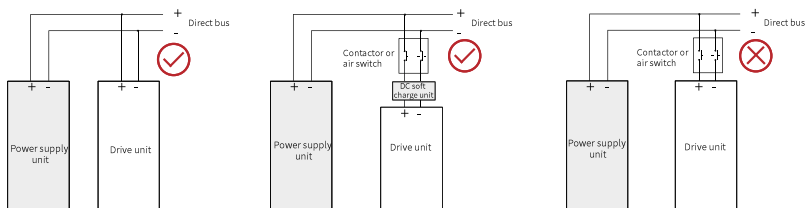

Figure 3-1 DC bus wiring
- The drive unit has a built-in fuse. Never power on the drive unit independently without a DC soft charge unit installed. Otherwise, the drive unit will be damaged. "Figure 3-1" on page 53 describes the correct and incorrect wiring methods.